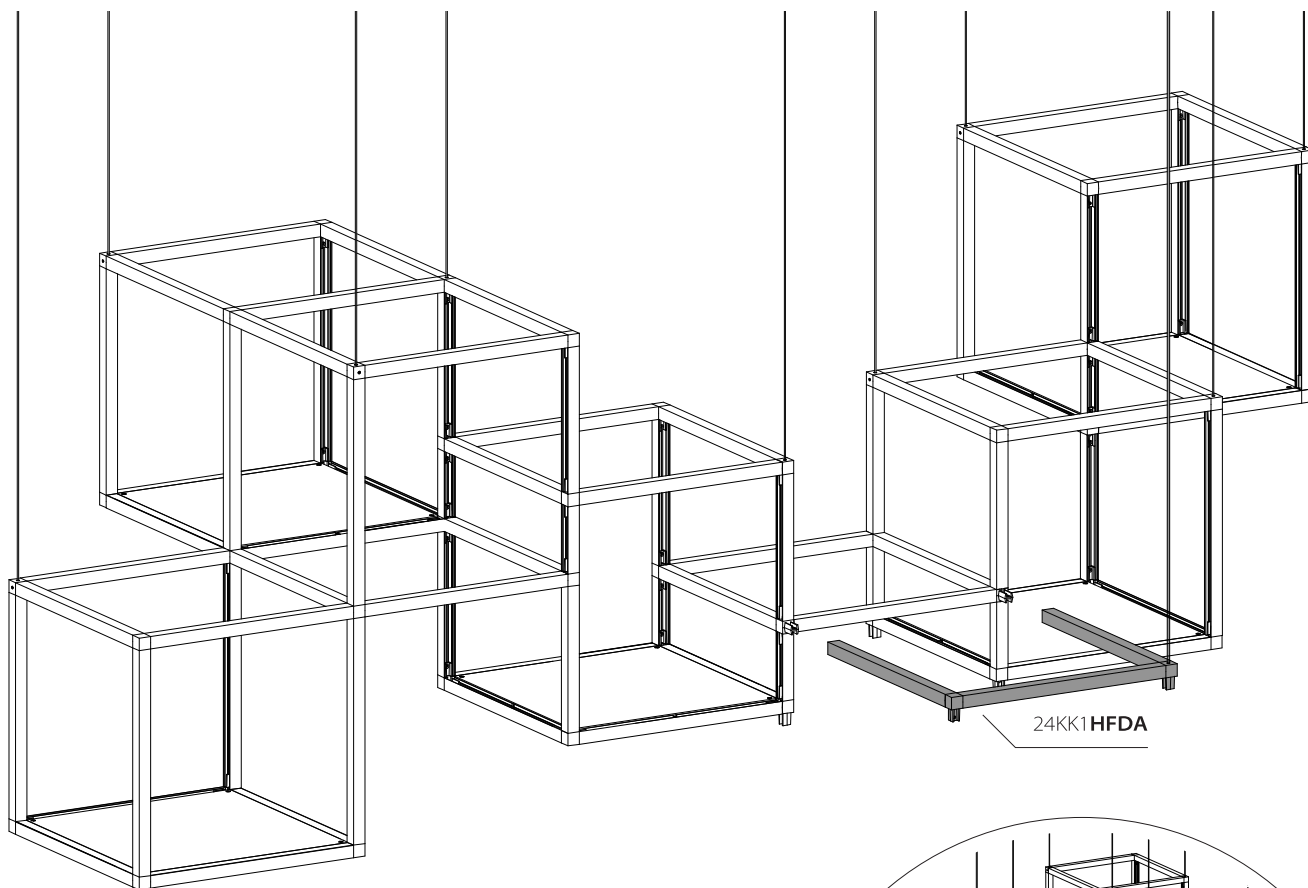

Fig. 15a
- 24a. Install 24KK1HFDA to assembly in orientation shown in Fig. 15a.